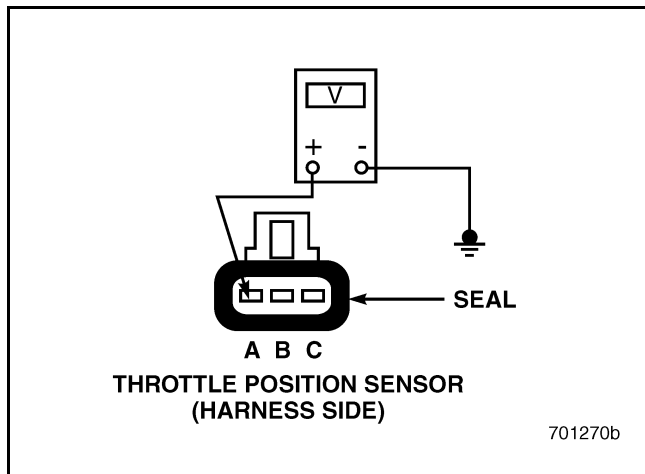

Figure 541
2. Disconnect the harness connector from the Throttle Position (TP) Sensor.
4. Measure the voltage between pin A on the harness side of the TP Sensor connector and a good ground (see Figure 541).